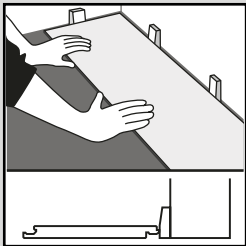

Fig. 1
- Starting with a full plank/tile along the wall, calculate how many widths there are across the room. If this means there will be a row of narrow planks/tiles along the opposite wall, cut the first row accordingly. Install this product with the tongue side/cut edge facing the wall. Install  $3/16"$  (5 mm) spacers between the plank/tile and wall (Fig. 1).